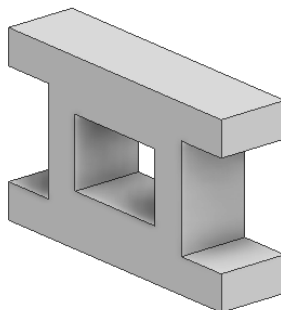

Figure 2-101 The model created on extruding the sketch
5. Choose **OK** from the dialog box to create the model and exit the **Properties-Extrusion** tool. The extruded model is shown in Figure 2-101.